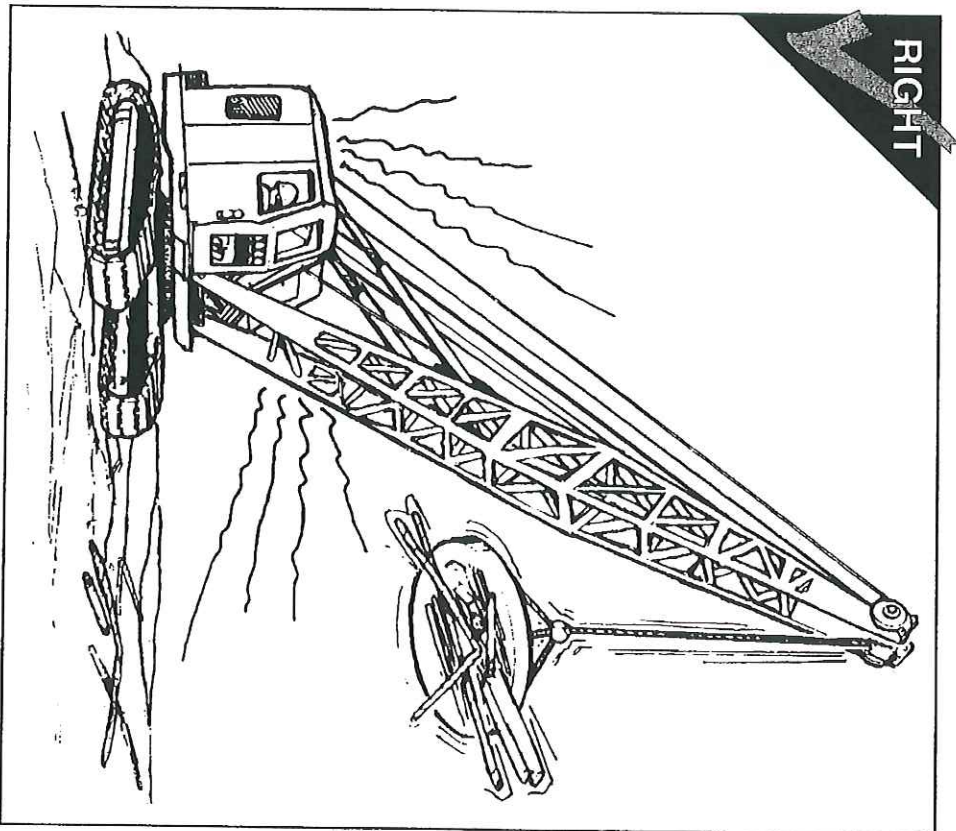

FIG. 41
- **Sound warning** signal prior to every load move and keep sounding it until personnel are clear of your path. (FIG. 41)